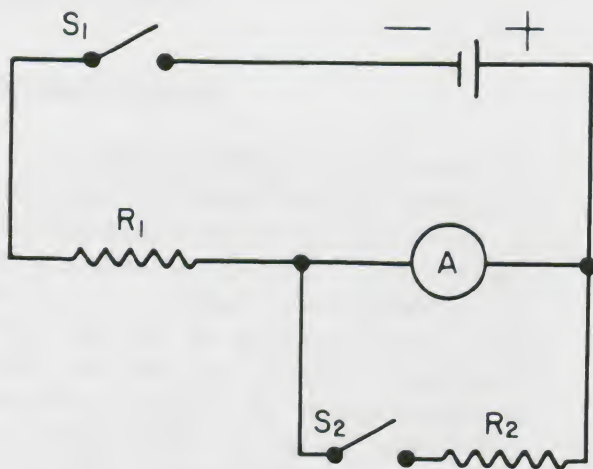
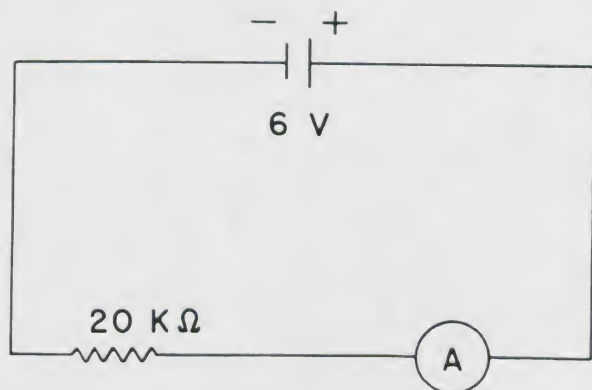
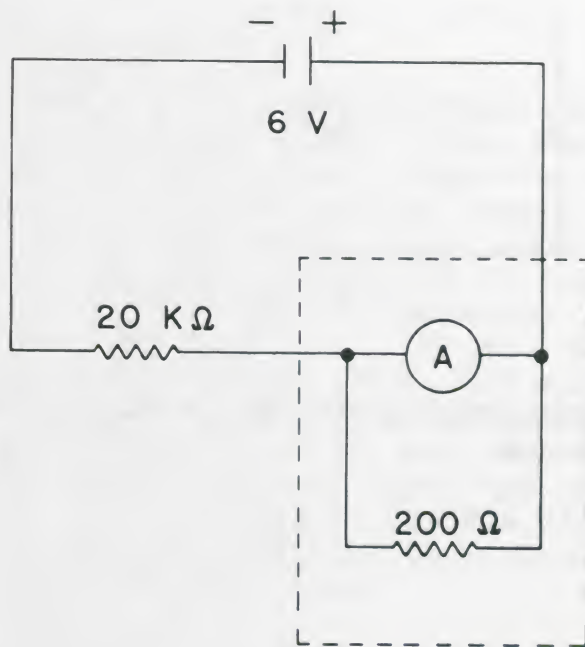

Figure 3.
Figure 9A.
Figure 9B.
1. The circuit diagram in Figure 3 represents a circuit which already has been set up for you. Check the wiring to see how it is related to the diagram. Close switch  $S_1$  and record the ammeter reading,  $I$ , with switch  $S_2$  open and then with  $S_2$  closed. When you are finished, open switch  $S_1$ . Record the values of  $R_1$  and  $R_2$ . Later in the module you will see how this circuit can be used to change the range of an ammeter. You will also learn how to compute the correct value of  $R_2$  to make an ammeter of any specified range.
In a slightly different way, one can change the range of an ammeter. Figure 9 is the same circuit used in Step 1 of Experiment A-1. Referring to Figure 3, Figure 9A corresponds to holding switch  $S_2$  open and Figure 9B corresponds to holding  $S_2$  closed. In Figure 9B the resistor connected in parallel with the ammeter is called a *shunt* resistor. The current in the  $20\text{-k}\Omega$  resistor divides when it reaches the branching point, with some going through the ammeter and some through the shunt. To measure a larger current through the  $20\text{-k}\Omega$  resistor, we need to cause the fraction passing through the shunt to increase. This is done by decreasing the resistance of the shunt resistor. Thus, the ammeter reads only a portion of the current and we need only to add a new calibrated scale to have an ammeter with a greater range. *The range of an ammeter can be increased by adding a resistor, called a shunt resistor, in parallel.*